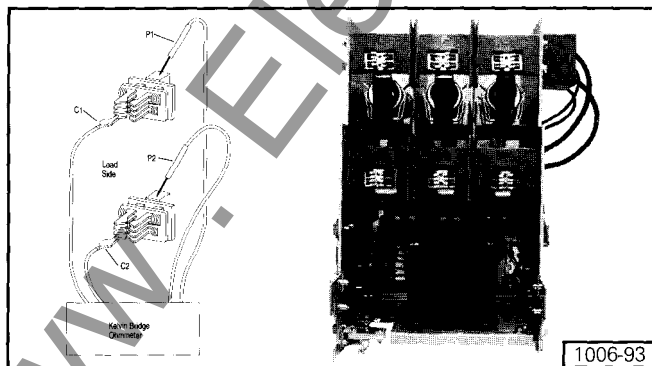

Figure 37. Connection to Measure Contactor Pole Resistance
5. Measure resistance across each contactor pole from the line to the load terminal as indicated in **Figure 37**. If the resistance exceeds the values indicated in **Table 9**, loosen connections and perform the following procedure: